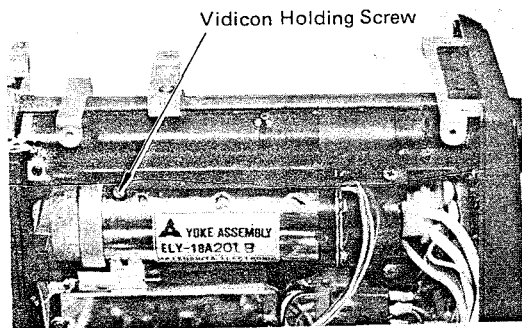

Fig. 6-4-7
- Loosen the vidicon holding screw. (see Fig. 6-4-7)